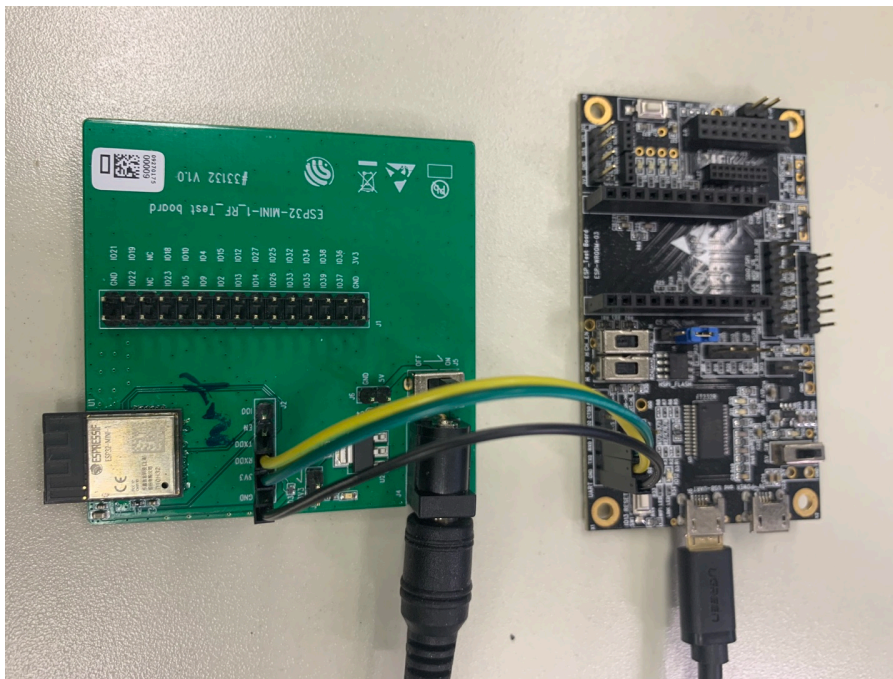

Figure 2: Hardware Connection
1. Solder the ESP32-S3-MINI-1 or ESP32-S3-MINI-1U module to the RF testing board as shown in Figure 2.